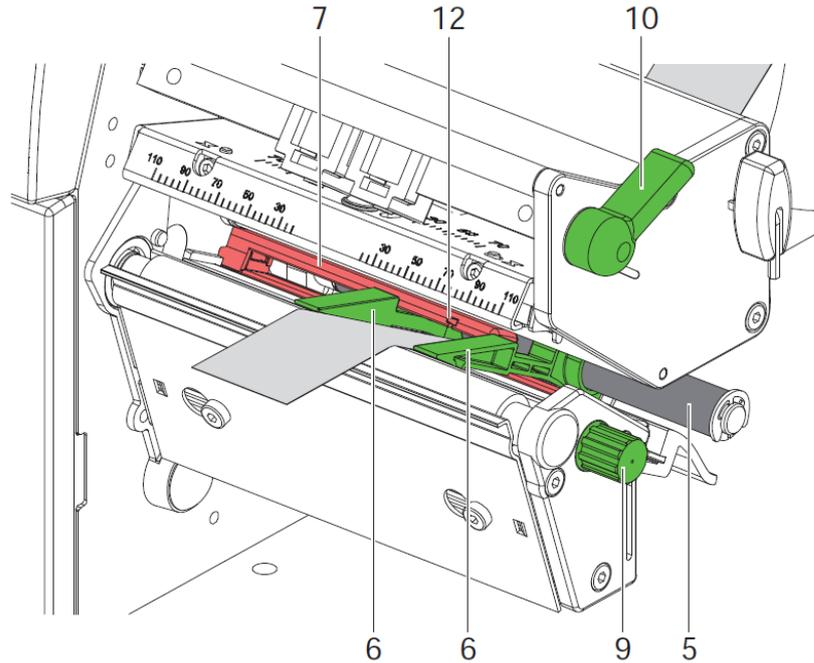

Figure 7 Inserting a media strip into the print head
5.1.3. Setting the Labels Sensor (Figures 7 & 8)
The label sensor (7, fig. 7) can be shifted perpendicular to the direction of paper flow for adaptation to the media. The sensor unit of the label sensor is visible from the front through the print unit and is marked with an indentation (12, fig. 7) in the label sensor retainer. When the printer is switched on, a yellow LED illuminates the sensor position.
- ▶ Turn lever (10, fig. 7) clockwise to lock the print head.